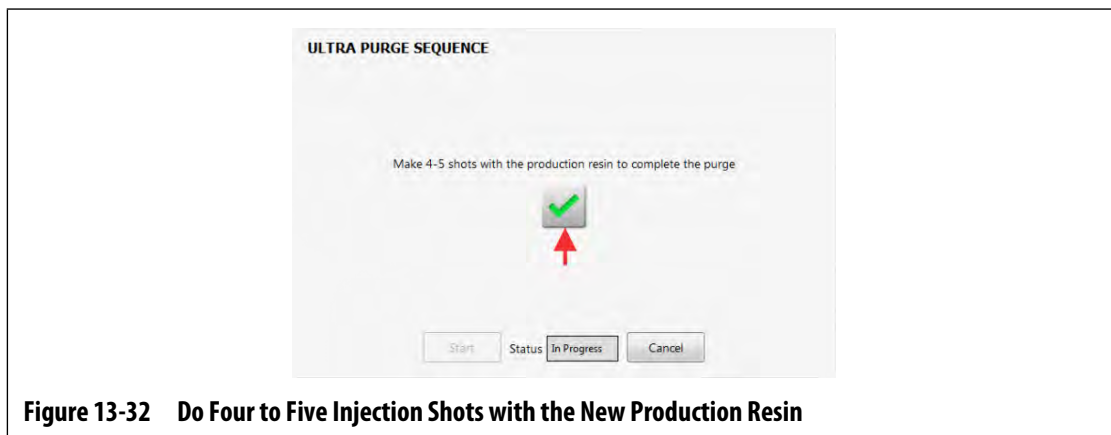

Figure 13-32 Do Four to Five Injection Shots with the New Production Resin
18. Do four to five injection shots with the new production resin to complete the purge (Figure 13-32).